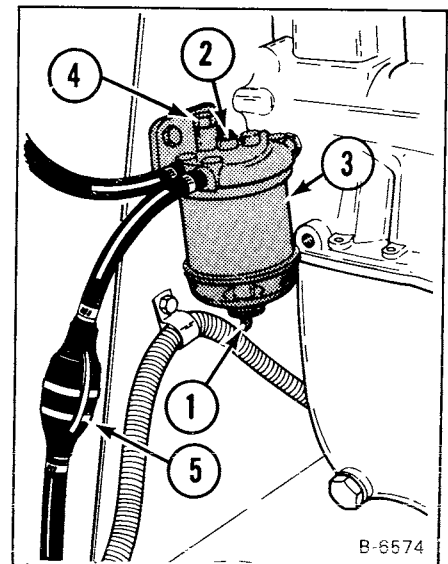

Fig. 52 Fuel Filter
The fuel filter is located at the front left of the engine (Fig. 52). See the Service Schedule (Page 19) for the service interval on the water trap and the fuel filter element.
1. If there is water in the water trap at the bottom of the filter, loosen the thumb screw (Fig. 52, Item 1).
3. Remove the small bolt at the top of the filter head (Fig. 52, Item 2) while holding the nut below the filter bowl. Remove the filter bowl.
4. Remove the filter element (Fig. 52, Item 3) and discard it.